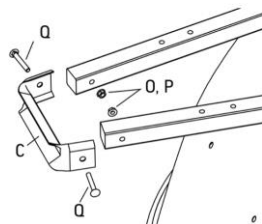

Fig. 5
9. Use 2 of the 8 x 50 mm bolts (Q) and 2 of the lock washers and nuts to attach the wheel guard (C) to the front of the handles (Fig. 5).